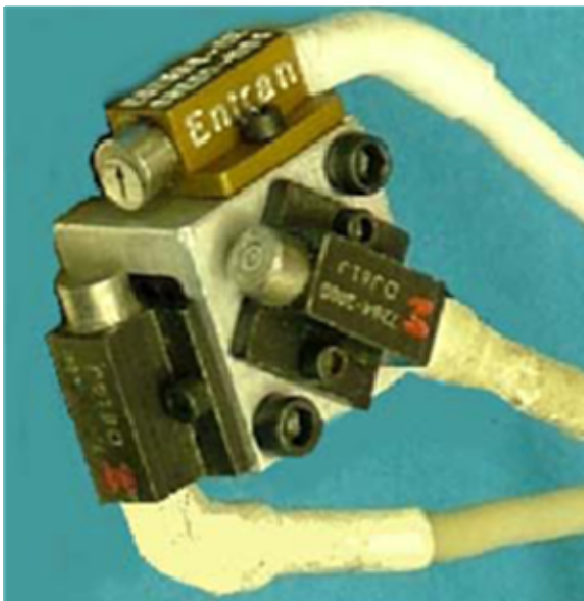

Figure 21 - Pelvis Accelerometer Mount
1. Mount the three uniaxial piezoresistive accelerometers onto the triaxial mount block with two each #0-80 X 1/8" SHCS so that their seismic masses all point to one corner of the block (Figure 21).